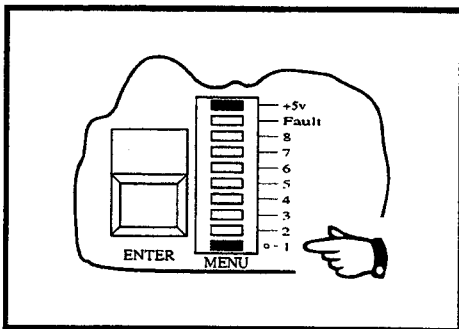

Figure 3-6
- (h) Press the blue **FUNCTION** key **ONCE**. The segment labelled 1 on the **Menu** display should illuminate. This segment identifies the ZERO menu function. See Figure 3-6.
- (b) Press the blue **FUNCTION** key **ONCE**. The **Menu** display should cease scrolling and the segment labelled **1** should illuminate. This segment identifies the ZERO menu function. See Figure 3-6.
- (c) Press the blue **FUNCTION** key. The **Menu** display should cease scrolling and the segment labelled **1** should illuminate. This segment identifies the ZERO menu function. See Figure 3-6.